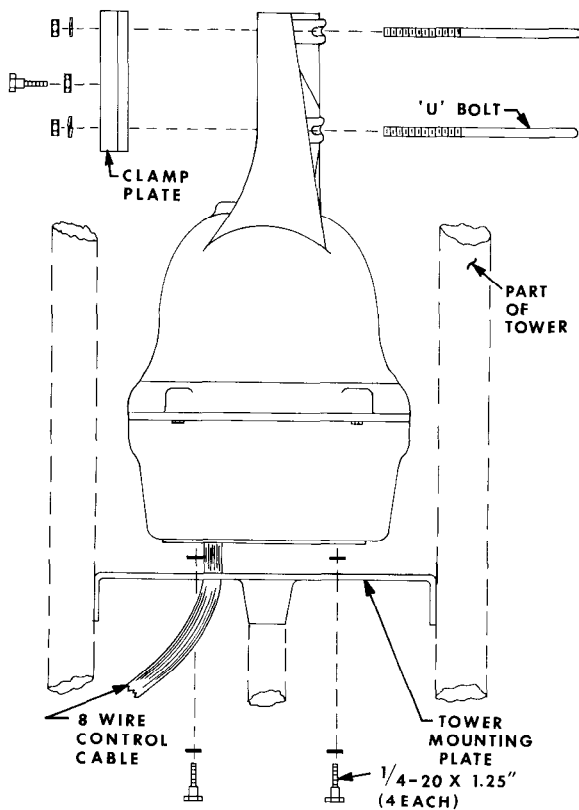

FIG. 6
2. The rotator is attached to the tower plate by means of 4 bolts and lockwashers (see figure 6). The flat tower plate must be drilled in four places using the template provided with this manual unless the tower plate is already properly drilled.
4. Trial assemble the mast to the top of the rotator using the U-bolts, nuts, and lock washers through the rotator and clamp plate as shown in Figure 6. The maximum mast diameter that may be used is 2 1/16" O. D. We recommend 1 1/2" nominal **STEEL PIPE** with 1.9" O. D. in standard wall thickness of .145". For stacked arrays or very large beams, we recommend extra heavy duty wall thickness .200". Both steel pipes can be purchased to specification ASTM-120.